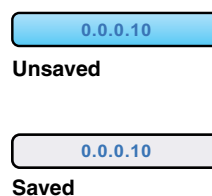

Figure 18. IP Address unsaved (top) and saved (bottom)
4. If you have changed any of the values in the **Network** screen, the background color of the button changes to blue (see figure 18, top). Press **Apply** to apply the new values or press **Revert** to return to the previous values without saving the changes. The button returns to gray (see figure 18, bottom). If you have not made any changes, the **Apply** and **Revert** buttons are grayed out.